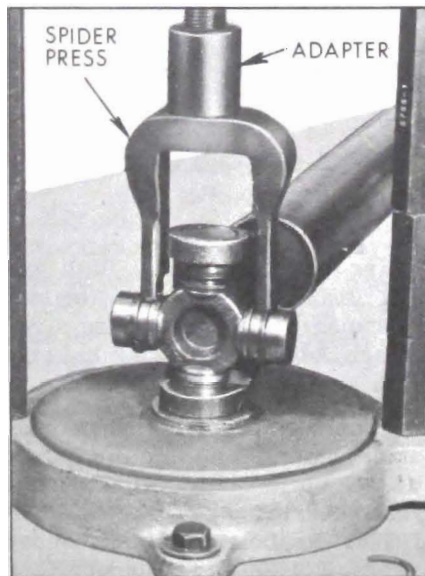

Figure 6-57—Pressing Out U-Joint Bearing
2. Set up J-6180-01 Power Ram and J-6207 Hydraulic Pump in preparation for removing the propeller shaft bearings. With this use Axle Bearing and Retainer Replacer J-8853 as a base plate. Attach Adapter J-9522-2 onto the ram screw. See Figure 6-57.
Install Spider Press J-9522-3 on spider. See Figure 6-57.